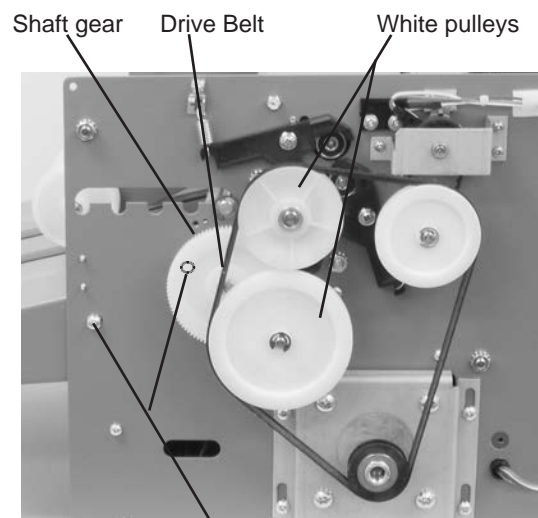

Fig. 21b
7. Remove large white pulley and smaller white pulley above it from the studs (Fig 21b).
8. Remove the upper conveyor shaft gear (Fig 21b).